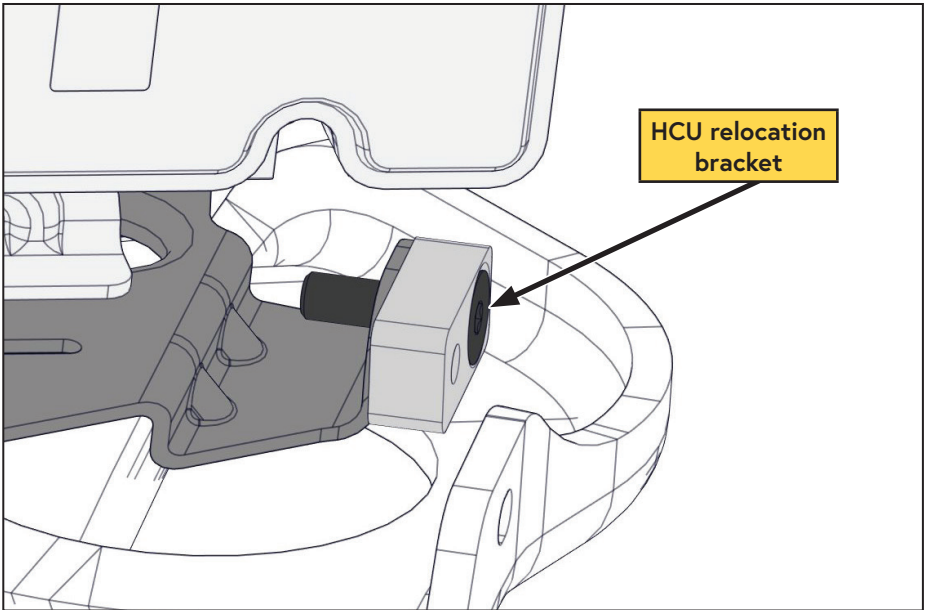

Figure 17 — Relocating the HCU
- ☐ Using the supplied flat head fastener, install the HCU relocation bracket (Figure 17).